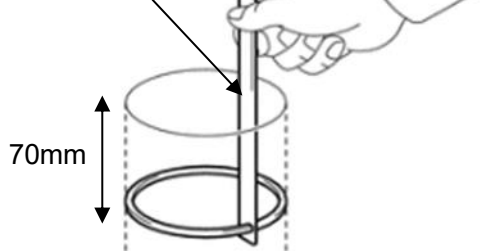

Fig.3
4.1 Place the piston ring in the middle of the cylinder using a piston (See the figure 3.)